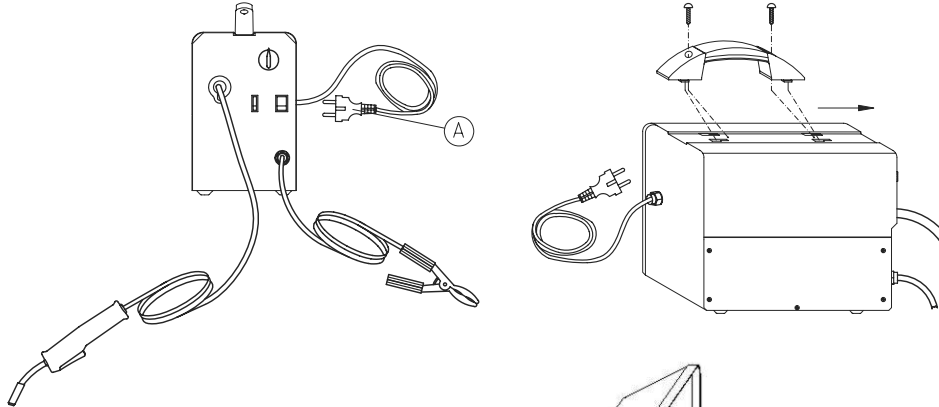

FIG.1
1. In order to assemble the plastic handle follow the instructions of figure 1.